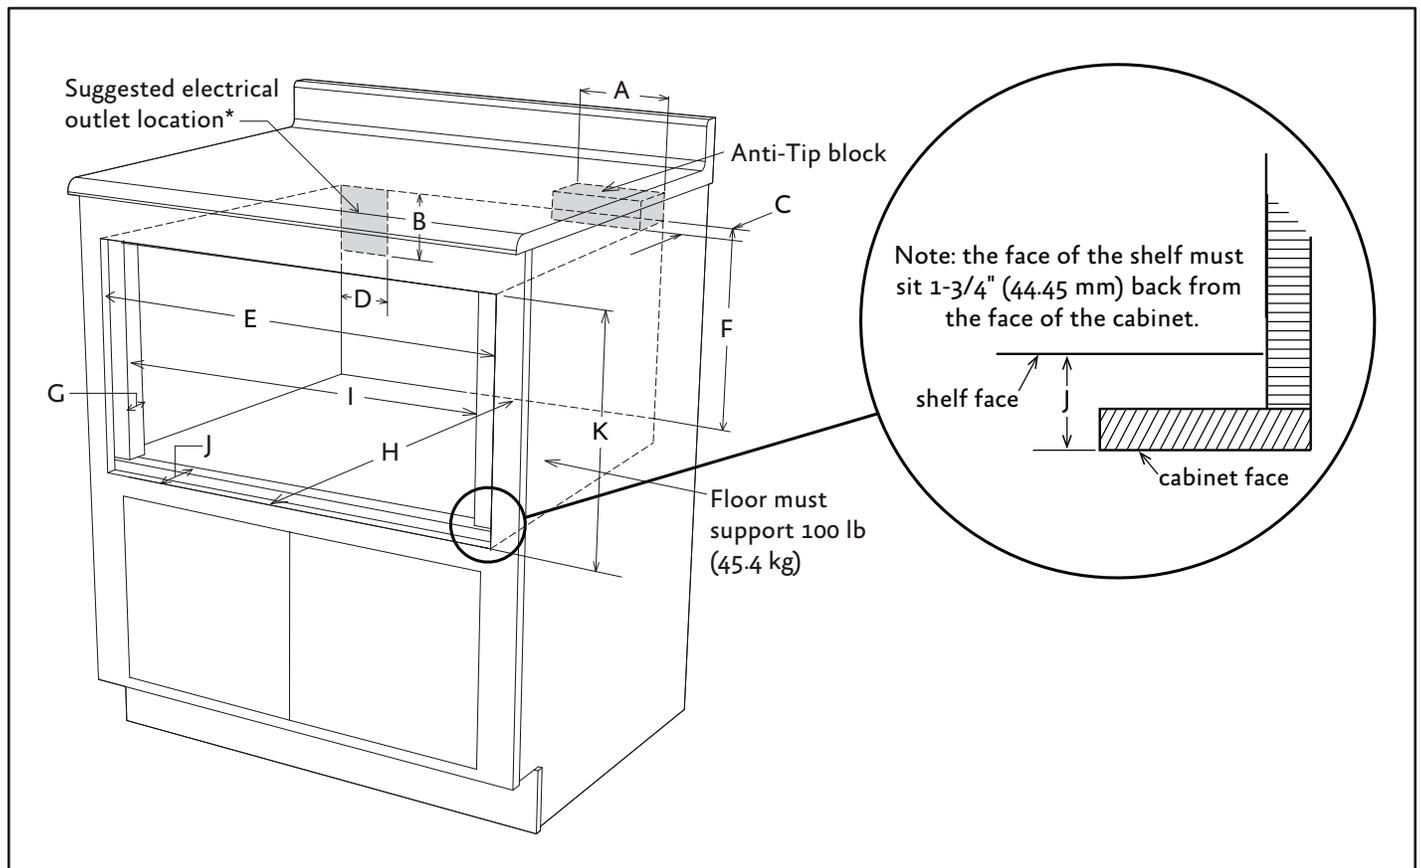

Figure 10: 30" Drawer Microwave Flush Mount Cutout
1. Prepare cabinet opening as shown in Figures 10, 11A and 11B.
Note: Key refers to Figure 10 below.